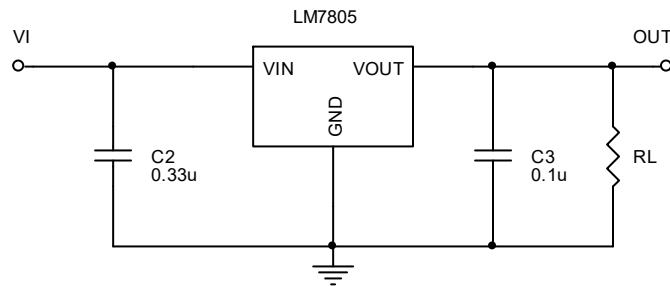

Fig.1. DC parameters determination
- Supply the schematic in Fig. 1. with a DC input voltage, $V_I=8V$ and use the jumpers to connect $J1$ with $J2$, $J11$ with $J12$ and $J14$ with $J15$. Measure the output voltage V_O with a voltmeter and compute the value of the output current I_O ($R_L=47\Omega$). Write down these values.